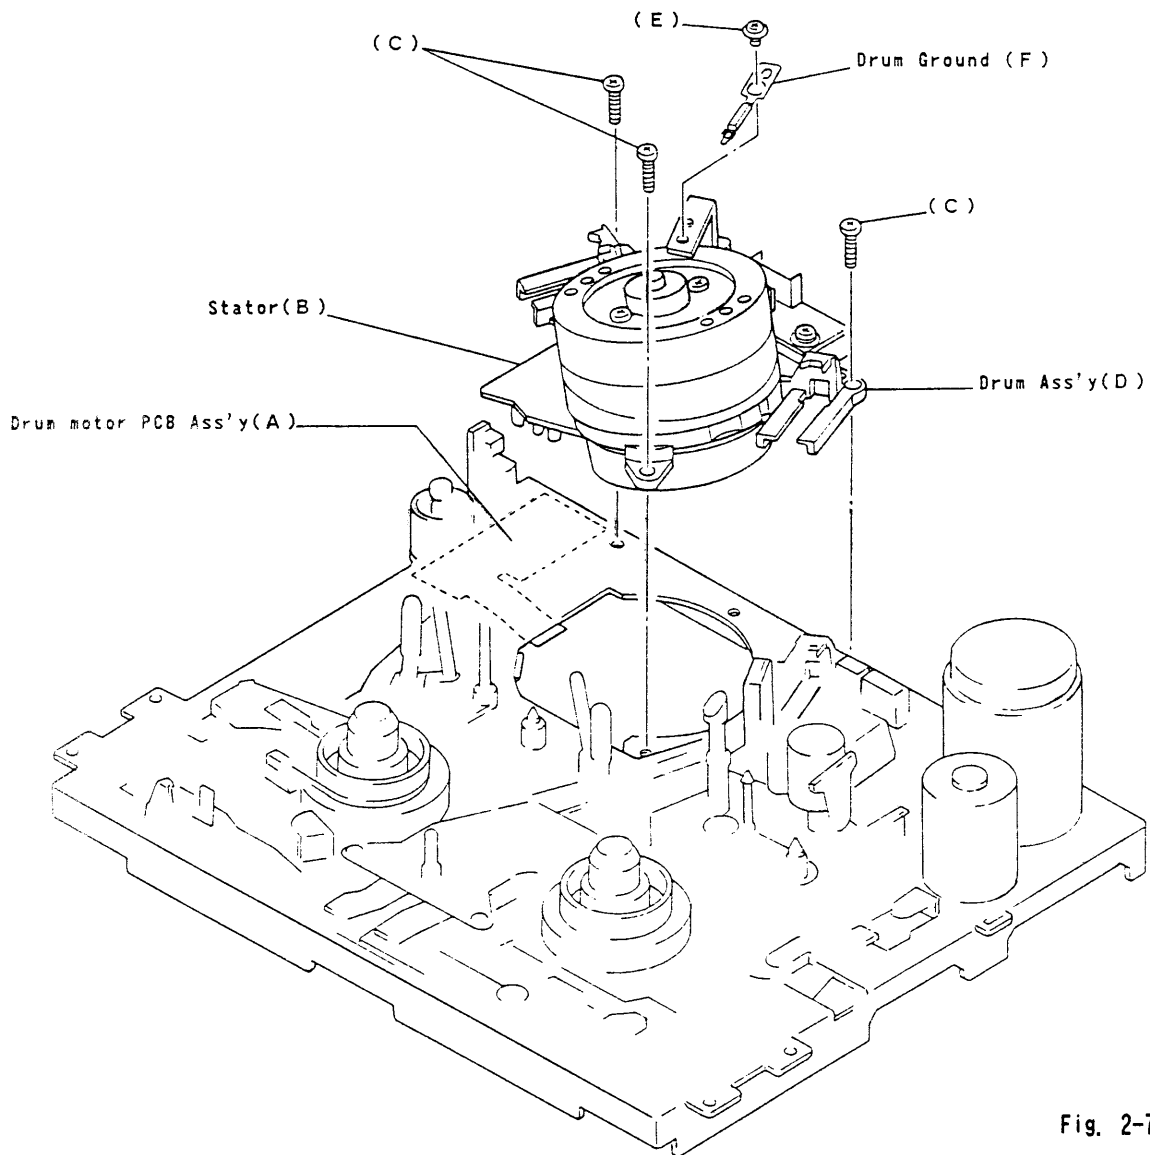

Fig. 2-7
(8) Drum Ass'y (Fig. 2-7)
Take off the Drum Ass'y (D) carefully so as not to scratch or damage. (Fig. 2-7)